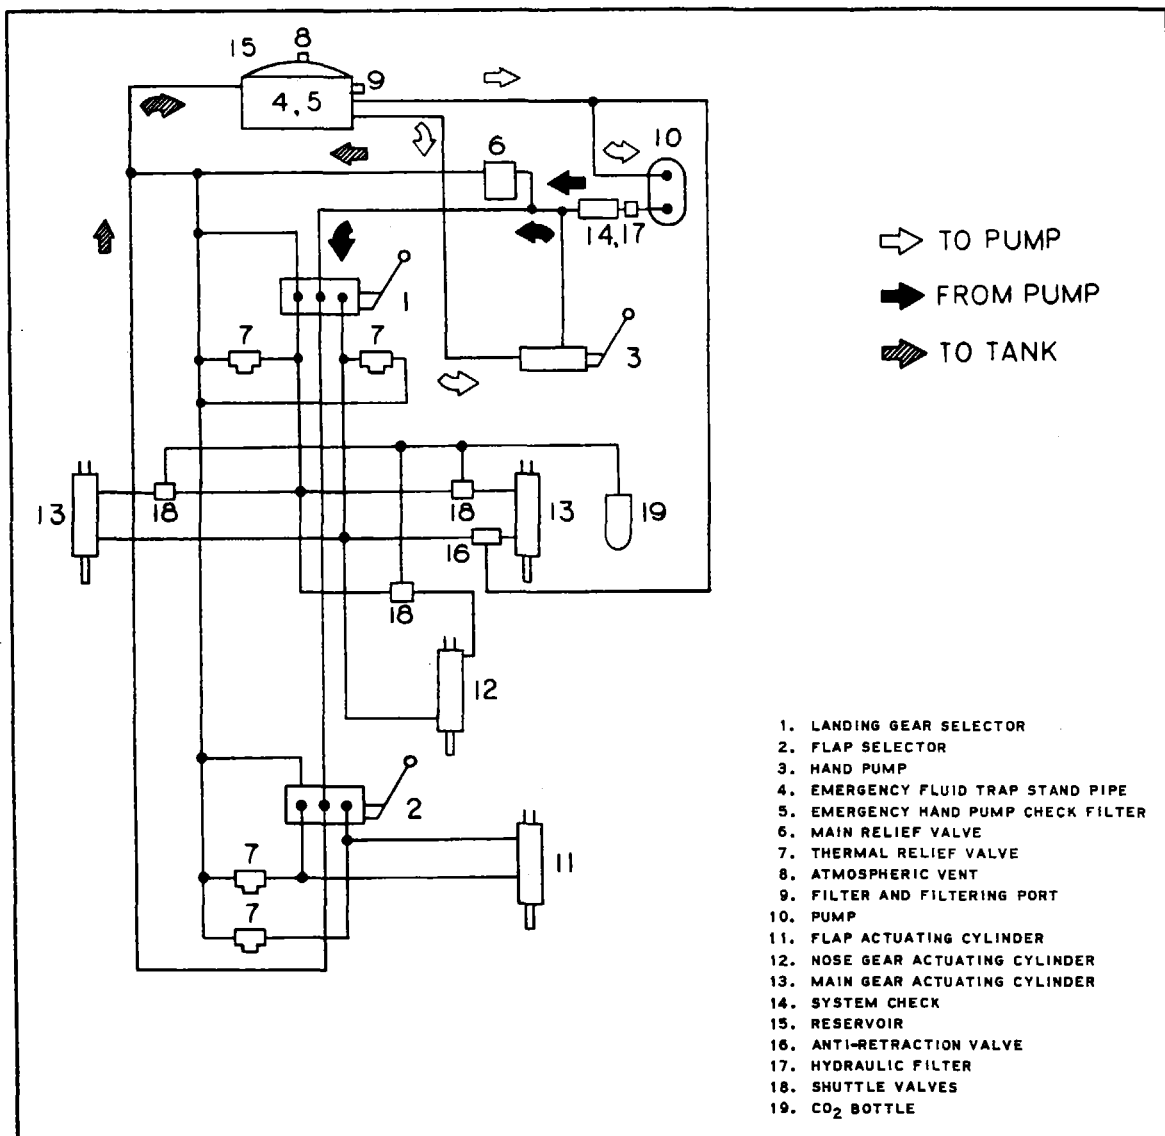

Figure 6-1. Schematic Diagram, Hydraulic System
6-6. GENERAL. The engine driven hydraulic pump draws hydraulic fluid from the Powerpak reservoir (15, Figure 6-1) and pumps it through the pressure port into the landing gear selector pressure chamber. When the two selector valves are in the neutral position, the fluid travels from the landing gear selector valve (1), the wing flap selector valve (2) and back to the reservoir.
6-9. The hand pump (3, Figure 6-1) serves as an emergency pump when the engine-driven pump fails. The system check valve (14) prevents the fluid from backing up through the engine-driven pump into the reservoir. In the event of severe leakage of the hydraulic fluid, the standpipe (137, Figure 6-7) prevents the fluid level from dropping below the emergency quantity required for the operation of the system by means of the hand pump. The engine-driven pump is supplied fluid through the standpipe, so that when the fluid level goes below the top of the standpipe, no fluid will flow. Thus, even though the system may develop a break, and the engine-driven pump continues to operate, depriving the system of fluid, the standpipe ensures enough fluid in the system for hand pump operation.